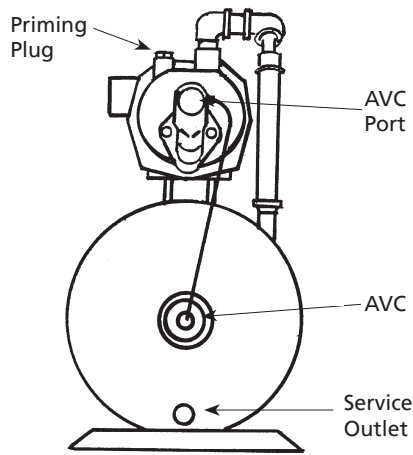

Figure 21B - AVC Connection
1. On shallow well installations the AVC tubing is connected via a 1/4" compression fitting into the tapped hole on the side of the ejector (See Figure 21B).